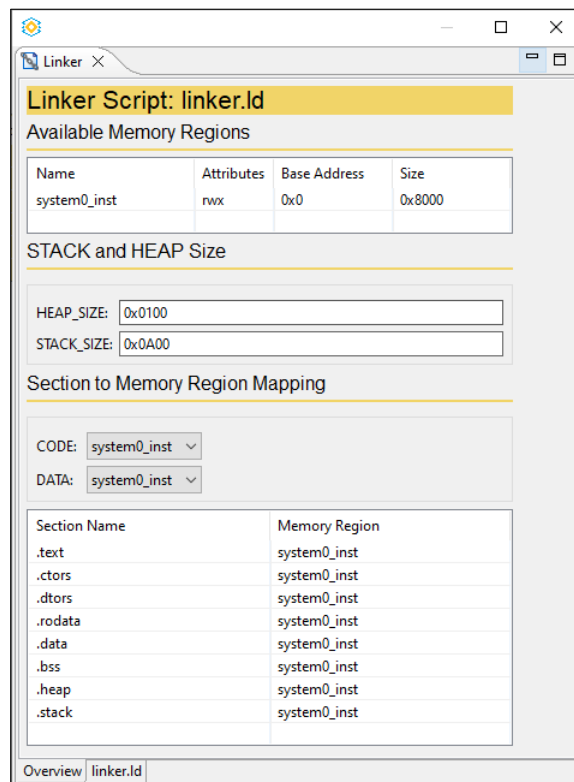

Figure 3.33. Linker Editor
- Linker Editor: An overview of the memory regions of linker script can be displayed. You can modify key linker parameters through the graphical interface (Figure 3.33).